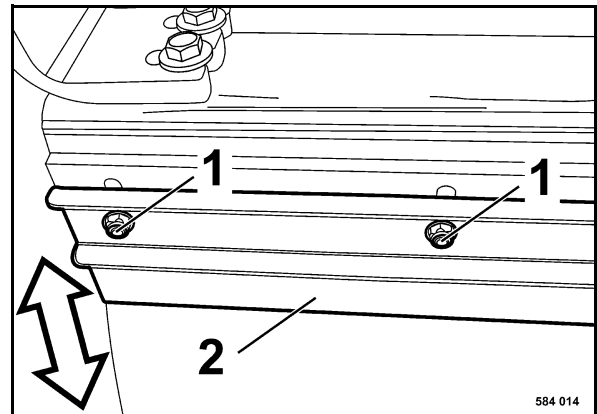

Fig. 190
- In order to adjust the scrapers 2 (Fig. 190), slacken the fastening screws (1) in the slots and push the scraper towards the drum to contact.